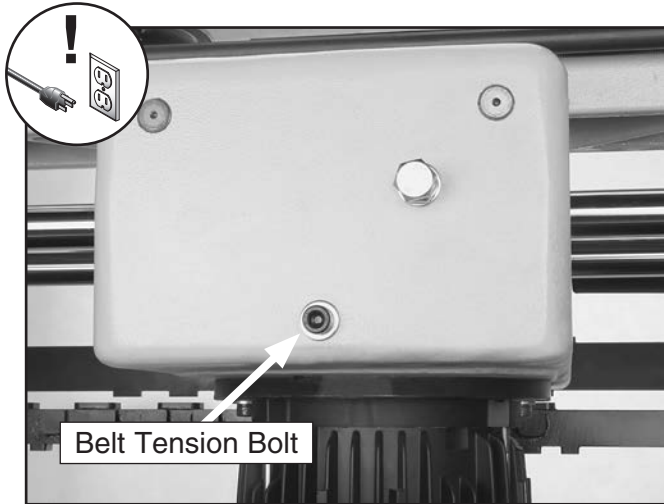

Figure 58. Belt tension bolt.
- Turn the belt tension bolt, shown in **Figure 58**, clockwise to tension the belt.
- Turn the motor tension bolt, shown in **Figure 58**, counterclockwise to loosen the belt.